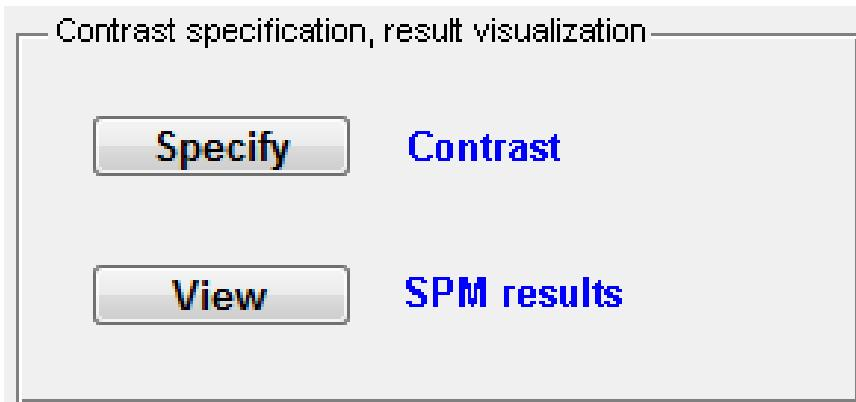

Figure 6-46. Detail view of the ‘Contrast specification, result visualization’ module of the *Statistical Parametric Mapping Level 2 (between-subjects)* GUI.
- Click on the *Specify Contrast* button in the ‘Contrast specification, result visualization’ module (Figure 6-46). This will launch the *SPM contrast manager* GUI.